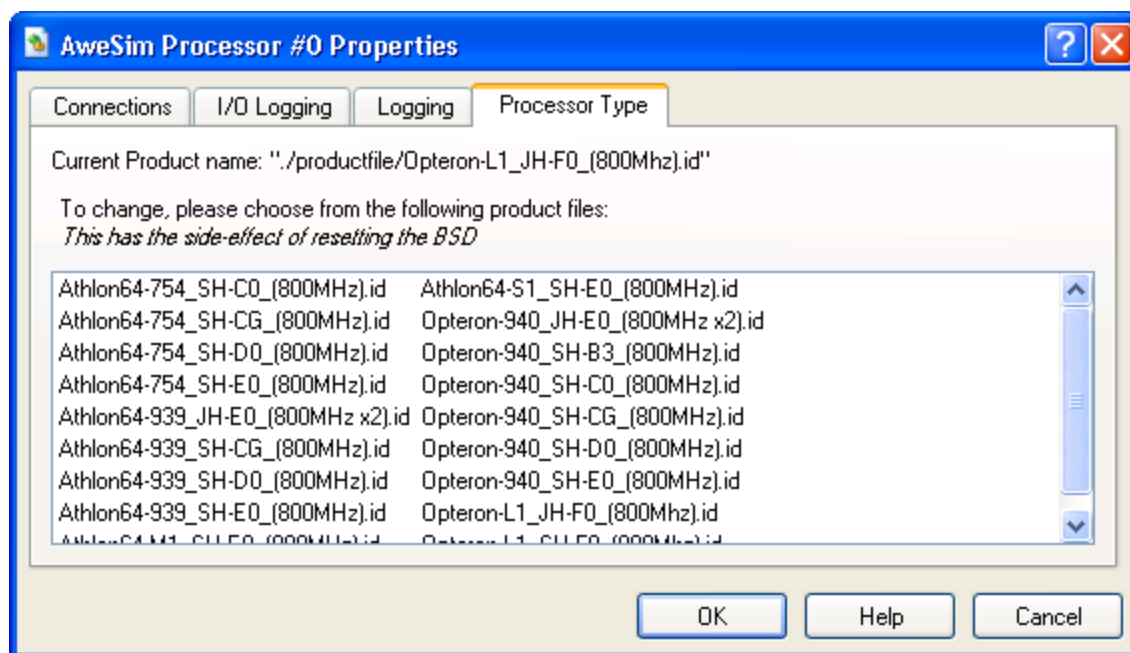

Figure 7-1: AweSim Processor-Type Properties
- Choose the *Ahtlon64-754_SH-C0_(800MHz).id* product file, as shown in Figure 7-1 on page 56.
The *Device Properties Window* is used to set various processor identification and behavior options. Figure 7-1 shows the *Processor Type* tab for the AweSim processor device. Here you can specify which member of the AMD microprocessor family should be simulated. The default is a standard AMD microprocessor. See Section A.2.3, *Product Files (*.ID)*, on page 184.